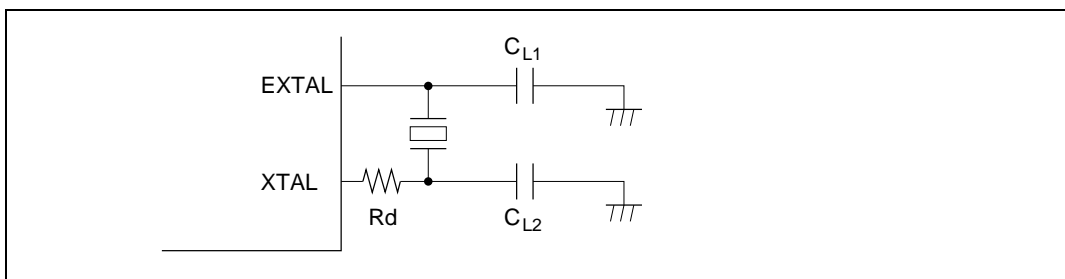

Figure 19.2 Connection of Crystal Resonator (Example)
Circuit Configuration: A crystal resonator can be connected as in the example in figure 19.2. The damping resistance R_d should be selected according to table 19.1 (1). Use capacitors with the characteristics listed in table 19.1 (2) for external capacitors C_{L1} and C_{L2} . An AT-cut parallel-resonance crystal should be used.